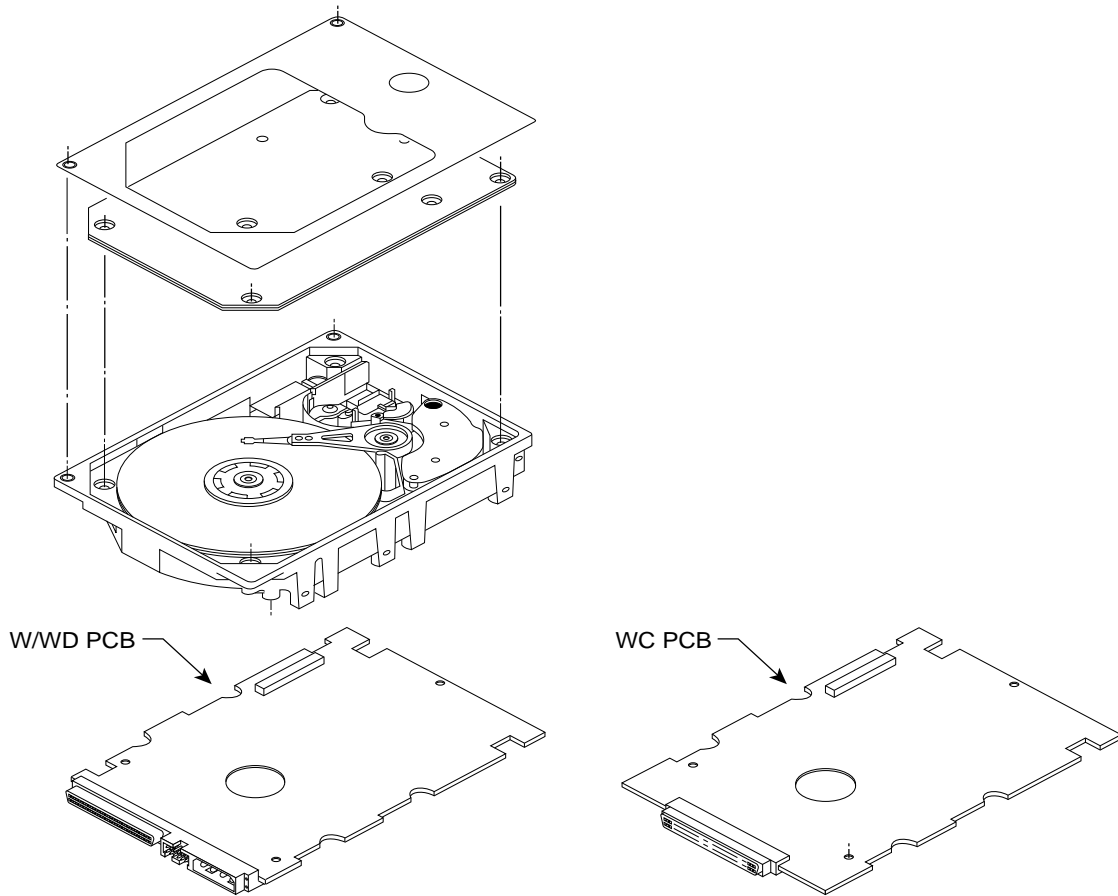

Figure 3.0-1. Hawk 1LP family (wide bus) drive
Refer to Figure 3.0-1 for an exploded view of the drive. NEVER disassemble the Head/Disc Assembly (HDA). This exploded view is for information only. Do not attempt to service items in the sealed environmental enclosure (heads, media, actuator, etc.) as this requires special facilities. The drive contains no parts replaceable by the user. The drive warranty is voided if the HDA is opened.
- Front panel (green LED) - See Figure 3.0-1
- Front Panel Kit (with green LED) - See Figure 3.0-1